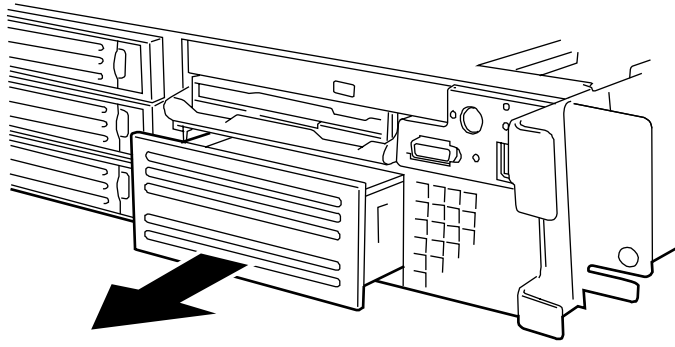

Figure 4-41. Removing the Device Carrier.
- 12.** Remove the device carrier from the front of the server. See Figure 4-41.